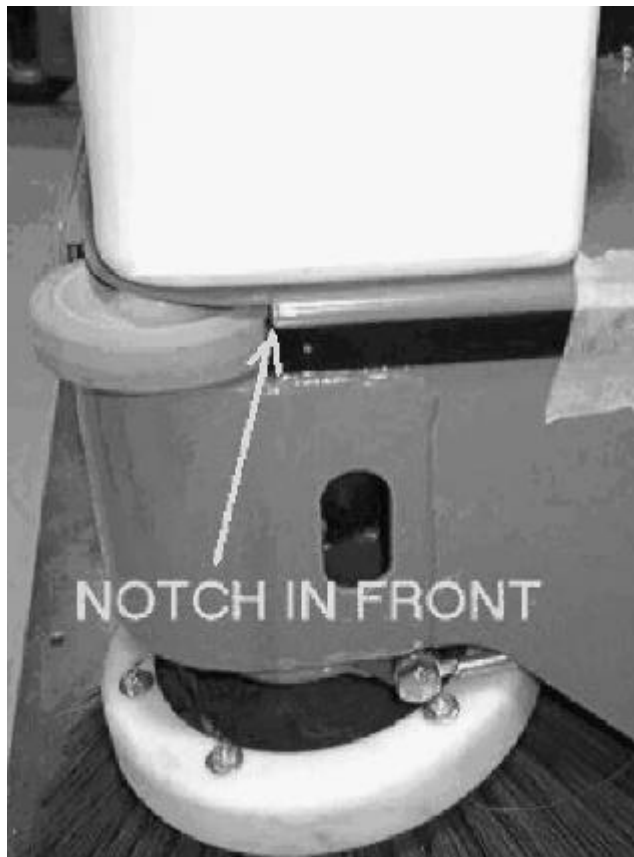

FIG. 2 - TEMPORARILY MOUNT RETAINER AND DRILL HOLES
2. Hold mounting strips (1) temporarily in place with masking tape. (Refer to FIG. 2)